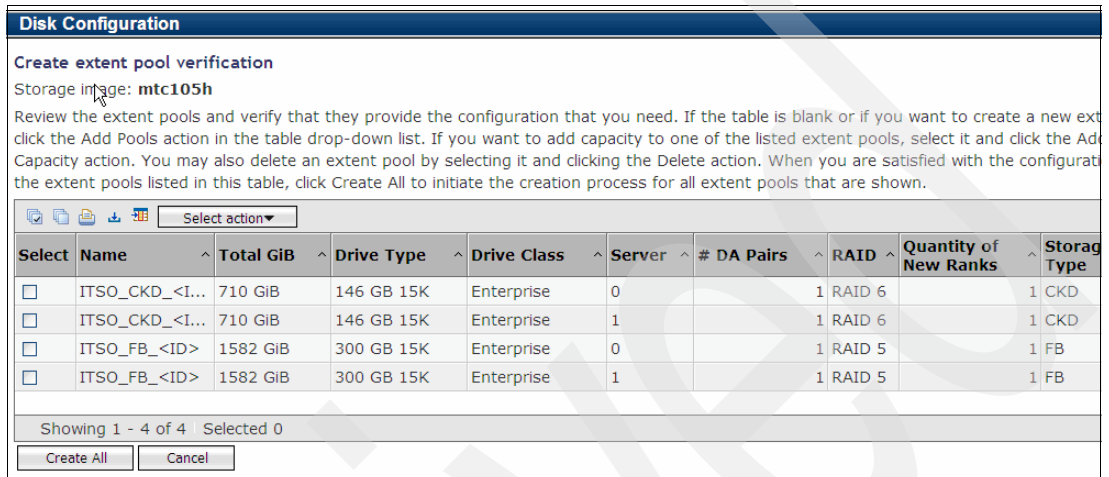

Figure 13-40 Create Extent Pool verification window
- The Create Extent Pool verification window opens (Figure 13-40), where you check the names of the Extent Pools that are going to be created, their capacity, server assignments, RAID protection and other information. If you want to add capacity to the Extent Pools or add another Extent Pool, you can do so by selecting the appropriate action from the Select action drop-down list. Once you are satisfied with the specified values, click **Create all** to create the Extent Pools.